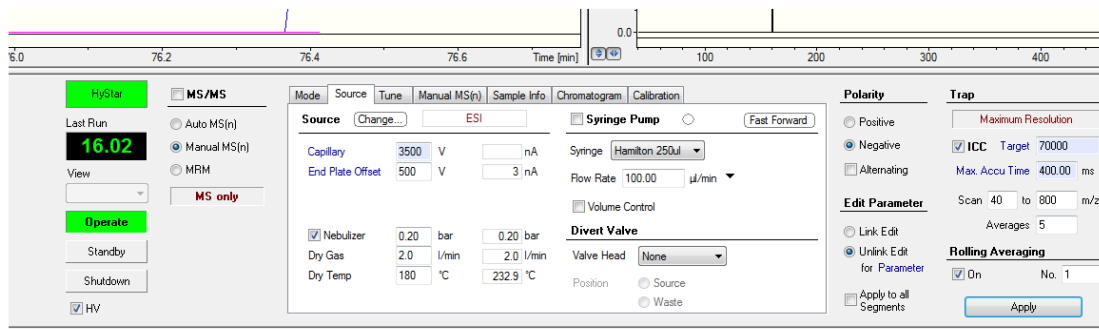

Figure 9: Source tab with parameter settings of Bruker MS Software.
Make sure not to jam the HV cables while closing the source housing! Use the provided cutouts (see Fig. 9). Avoid bending the cables (minimal bending radius is 4 cm). Do not place the cables over sharp edges or hot surfaces. Avoid strain on the cables and use strain relief measures.
- Select ESI as ionization source in the “Source” tab of the software and use the recommended settings according to Tab. 1 (see Fig. 9).